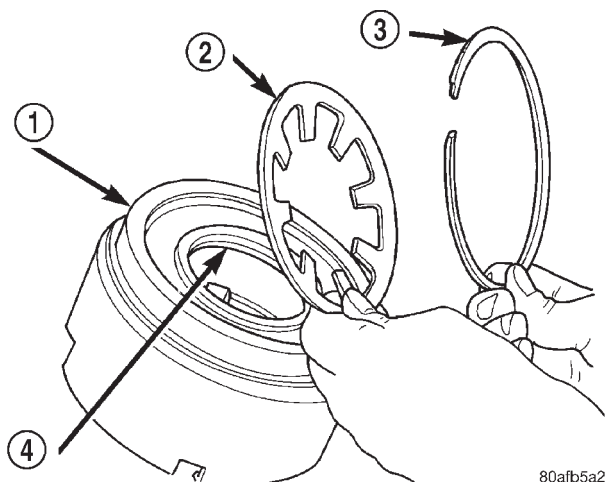
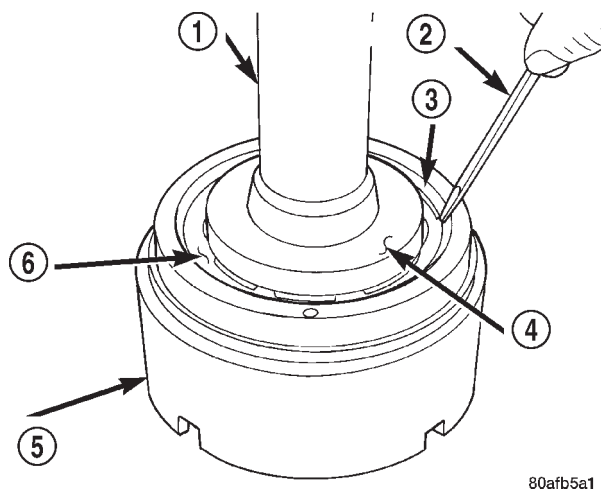

Fig. 256 Return Spring and Snap Ring
Fig. 257 Install Snap Ring
(3) Using an arbor press and Tool 6057, Install OD/Reverse piston return spring and snap ring (Fig. 256) (Fig. 257).